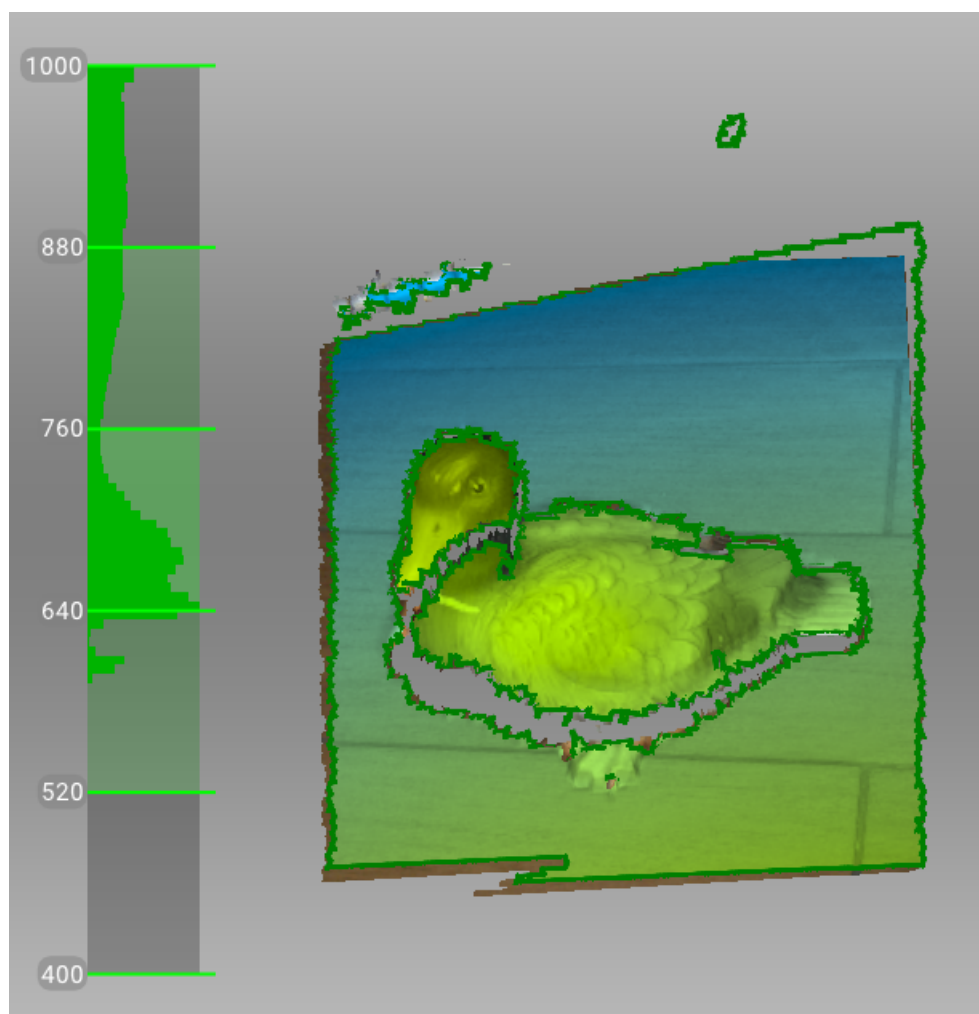

Figure 29: Distance meter and distance color showing surfaces that fall within the optimal range for Artec Spider.
- Try to position the scanner in the way the most surfaces in the field of view are colored in green which corresponds to the center of the range meter¹ (Figure 29)
¹ Technically, the center of the range meter is the center of the depth of view. The 3D scanner has near and far cutting planes (see Figure 2) that determine the optimum distance between the scanner and the target object. Artec Studio offers the *Range meter* feature so you can easily visualize the distance between the scanner and the object during the recording process. The *Range meter* comprises a set of semitransparent diagrams located on the left side of the *3D View* window (see Figure 29). Each histogram displays the distribution of captured surface points by distance from the scanner. The color corresponds to the set of surfaces from which it was obtained: by default, gray indicates registered key frames, dark green indicates the last successfully registered frame and red indicates a registration error.